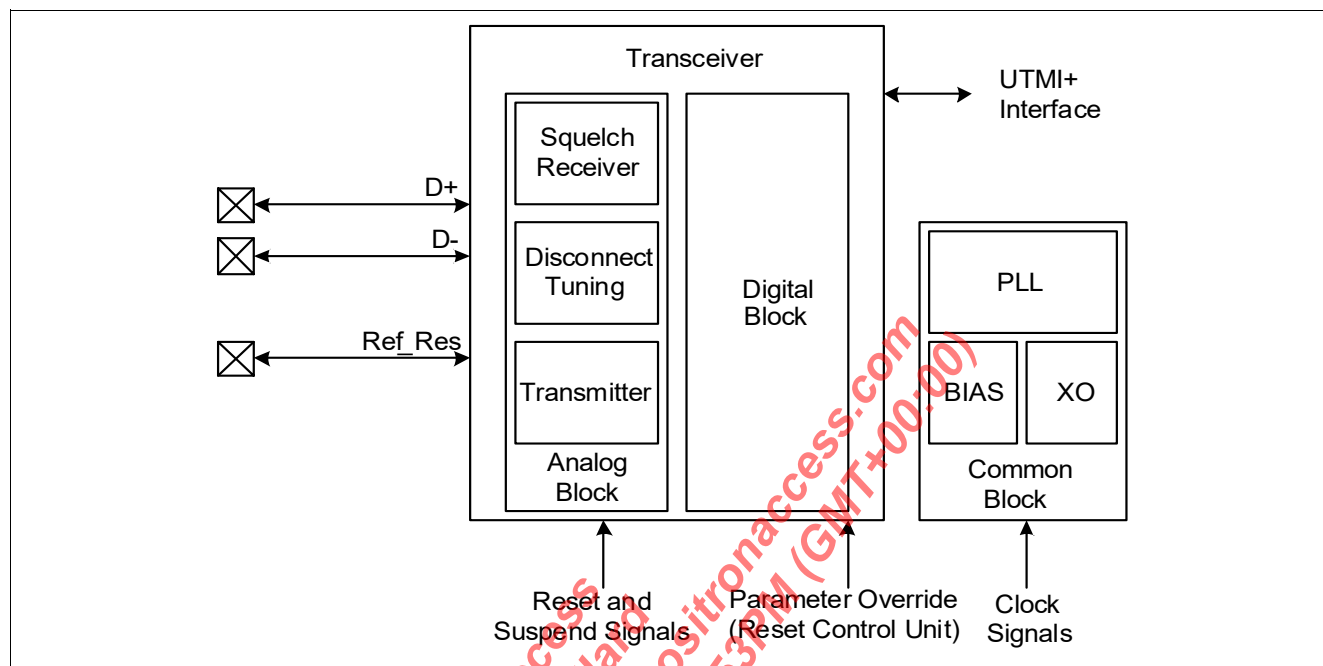

Figure 47 Overview of the USB PHY
Figure 47 shows that the USB 2.0 PHY consists of two basic components, the common block and the transceiver block. The common block contains the Phase-Locked Loop (PLL), bias, and Crystal Oscillator (XO) blocks. The transceiver block comprises the analog block and the digital block, which control the transmit, receive, disconnect detection, squelch detection, and automatic tuning functions.